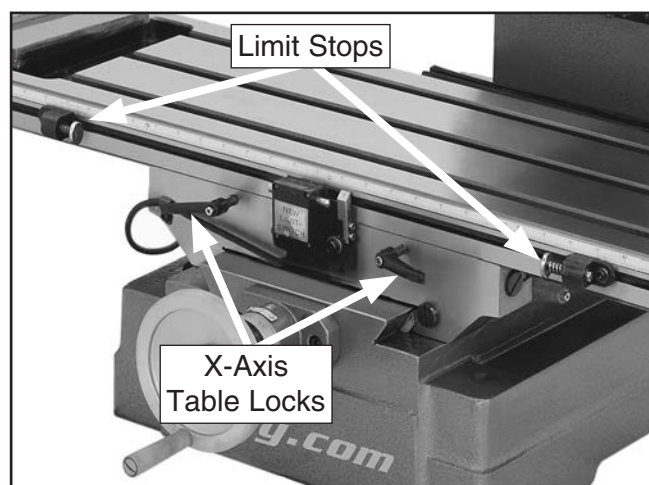

Figure 28. Table locks and limit stops.
1. Loosen both X-axis table locks shown in **Figure 28**.